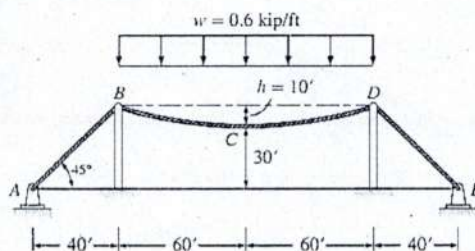

Figure: 4
- (b) A cable-supported roof carries a uniform load $w = 0.6$ kip/ft (Figure 4). If the cable sag at midspan is set at 10 ft, what is the maximum tension in the cable (i) between points *B* and *D* and (ii) between points *A* and *B*? use general cable theorem. 05